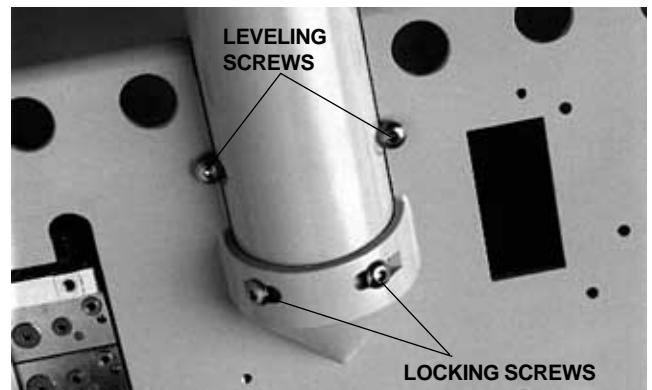

FIGURE 40
2. If leveling is necessary, loosen the two locking screws (see Figure 40) on the underside of the control head. Level the control head, side to side, using the two leveling screws (see Figure 40). After leveling, tighten the two locking screws.